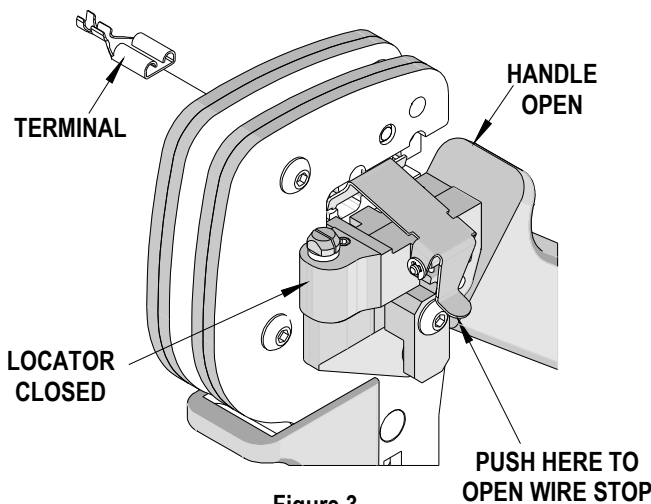

Figure 3
2. Some terminals with large insulation grips may interfere with the crimp tooling when swinging the locator into position. This terminal must then be loaded into the locator in the closed/crimp position. See Figure 3.